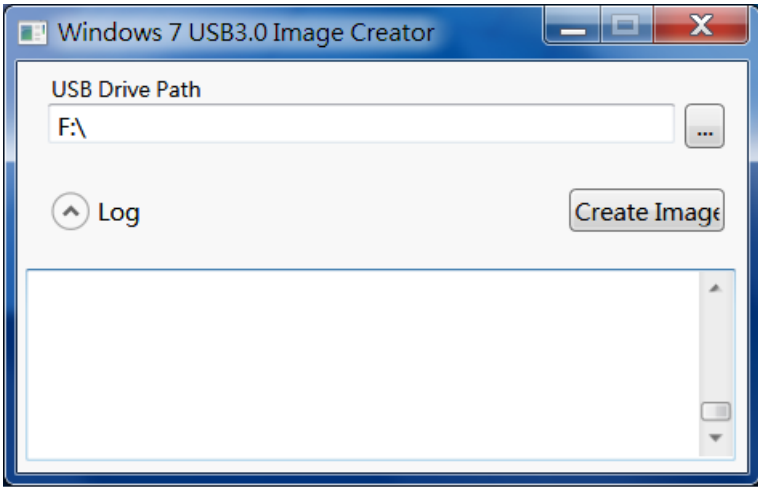

Figure 4-20: Windows 7 USB 3.0 Creator Utility
**Step 6:** The Windows 7 USB 3.0 Creator Utility screen appears (**Figure 4-20**). Click  to browse to the root of the USB drive containing the Windows 7 image.